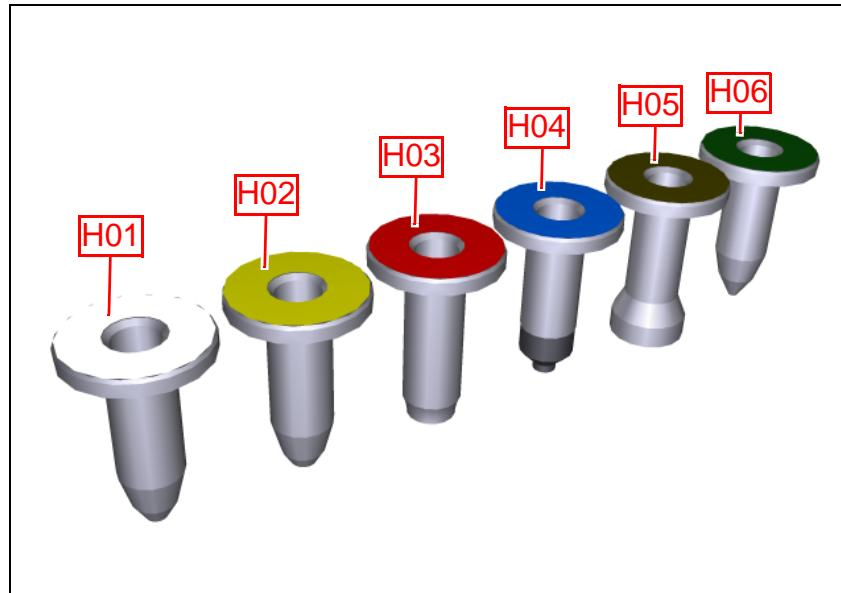

Figure 16-19. HYDRA mount tools.
2. Remove the H04 (blue tools) (see Figure 16-19) and inspect the rubber tips under a magnifier or pocket lens for cracks or abrasions. Replace tip if necessary.